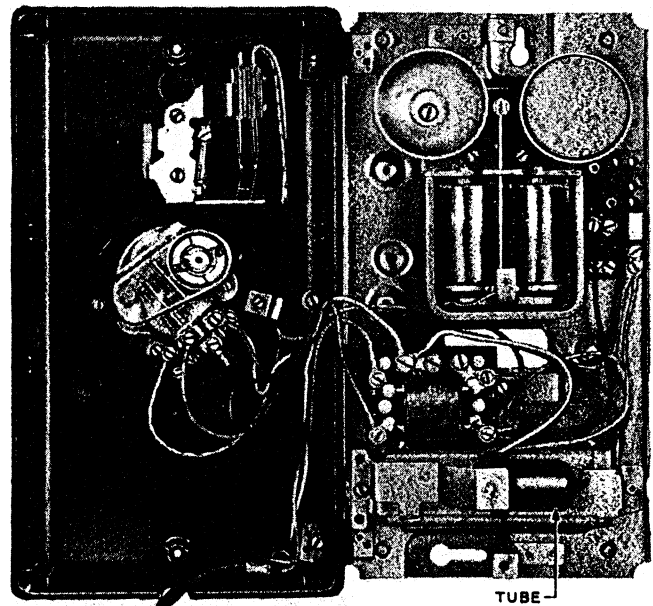

Fig. 14 — 356C Telephone Set — Interior
- The 356-type telephone set is used on common battery stations for 4-party selective and 8-party semiselective service (see Fig. 14).
3.02 The 354-type wall telephone sets are joined by two fabric straps which permit the telephone set to be opened to an angle of at least 180 degrees (see Fig. 14). When closed, the housing is secured to the base plate by two captive mounting screws.